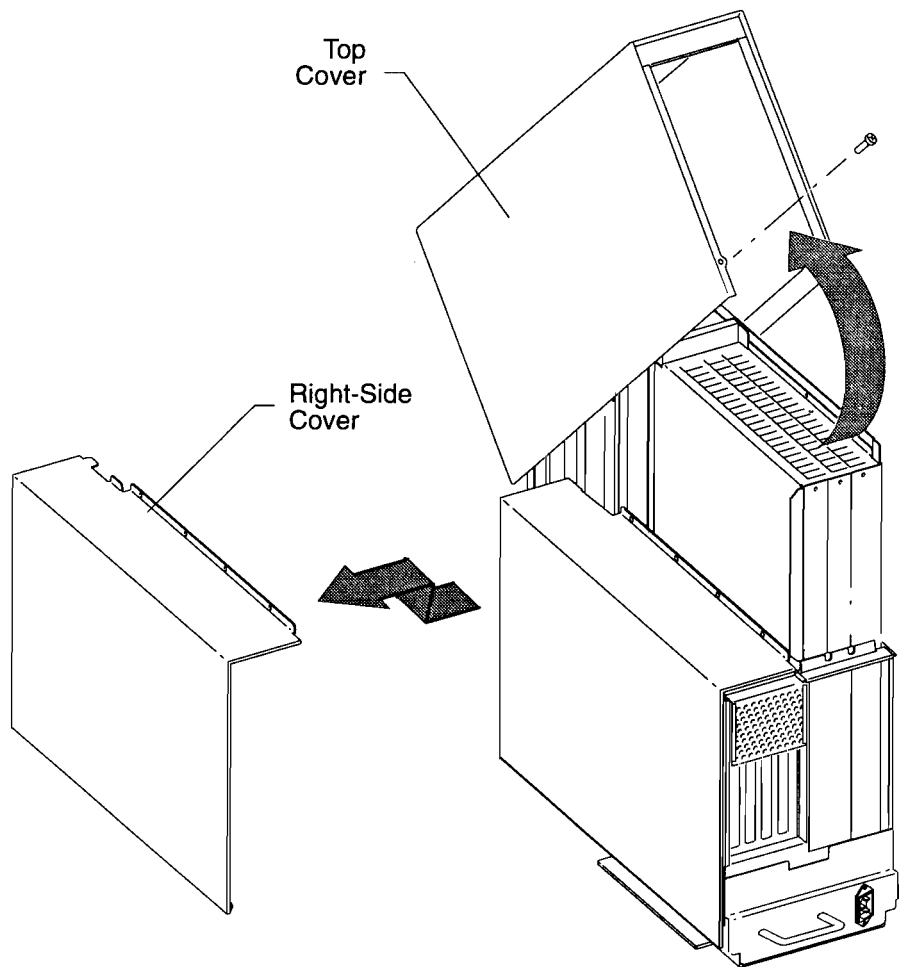

Figure B-11. Removing the Top and Right-Side Covers
- 4.** Remove the top cover of the system card cage by removing the thumb screw at the back of the system, and sliding the top cover to the back and pulling it off, as shown in Figure B-11.
- 5.** Remove the right-side cover, as shown in Figure B-11.